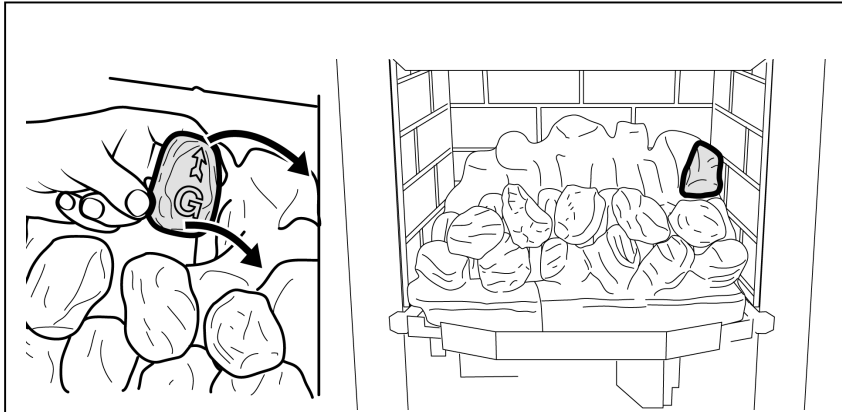

Figure 12. Third row "Coal G"
16. Hold coal 'G' upright with the arrow pointing to the top. Locate coal 'G' as shown in figure 12.